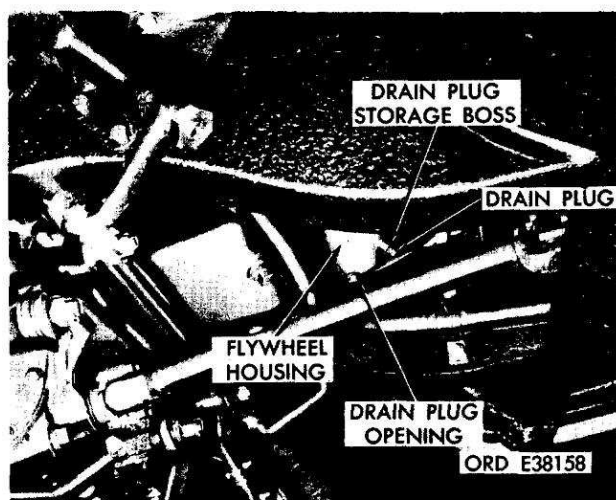

Figure 4-23. Flywheel housing drain plug.
- (1) Pull out fording valve control. (Open floor drains on older models.)
- (2) Set fuel tank filler cap to the closed position for fording.
- (3) Secure floatable objects to vehicle.
- (4) Remove drain plug from storage boss and install in flywheel housing cover drain opening (fig. 4-23).
- (1) Push fording valve control in to restore normal ventilating.
- (2) Set fuel tank filler cap valve to "OPEN".
- (3) Close floor drain valves. (Floor drains are open on later model vehicles.)
- (4) Drag brakes to dry out shoes.
- (5) Remove drain plug from flywheel housing cover drain opening and stow in flywheel housing storage boss (fig 4-23) or in the driver's seat map compartment.